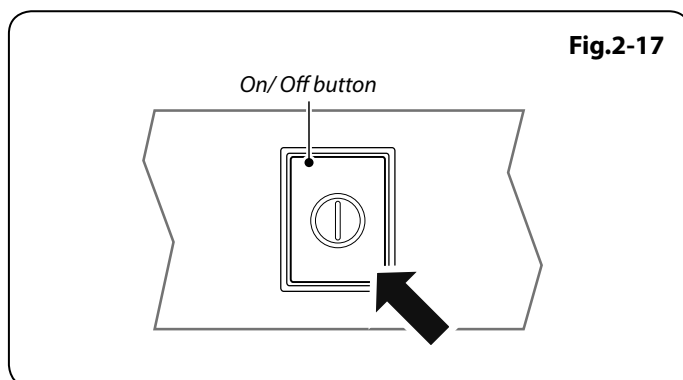
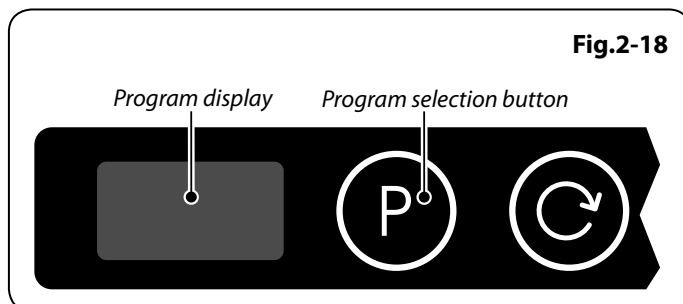

Fig.2-17
Fig.2-18
3. Set ON-OFF button to ON (**Fig.2-17**); the program display will light (**Fig.2-18**).
4. Press the program button 'P'; the selected program will appear in the program display (**Fig.2-18**).